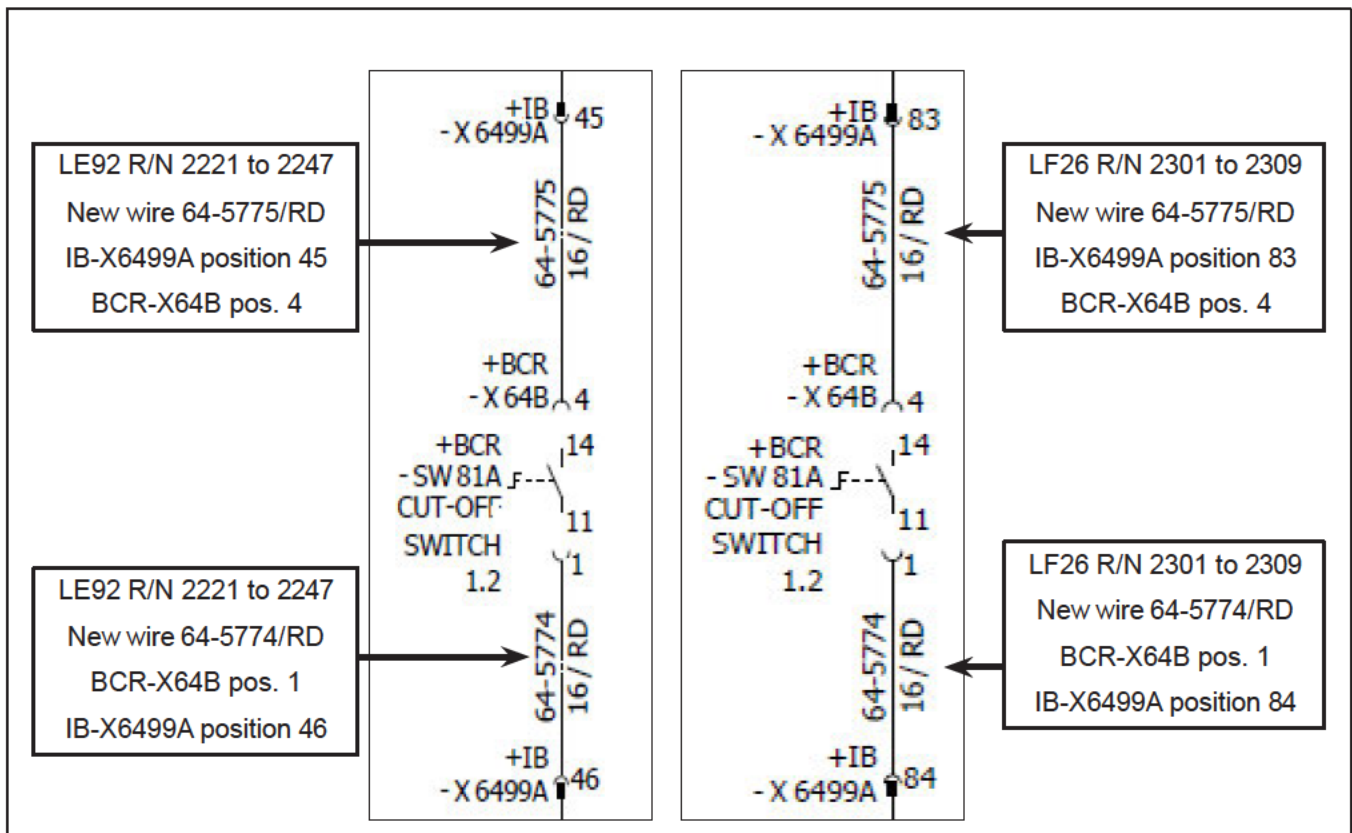

Figure 16 - New Wire 64-5774 and 64-5775 Installation
- 1.49. Connect wire 64-5773/RD (available in wire kit N632001301) in connector EN- SC64BE and in connector BCR- MS64B (Voltage Regulator). See Figure 16.